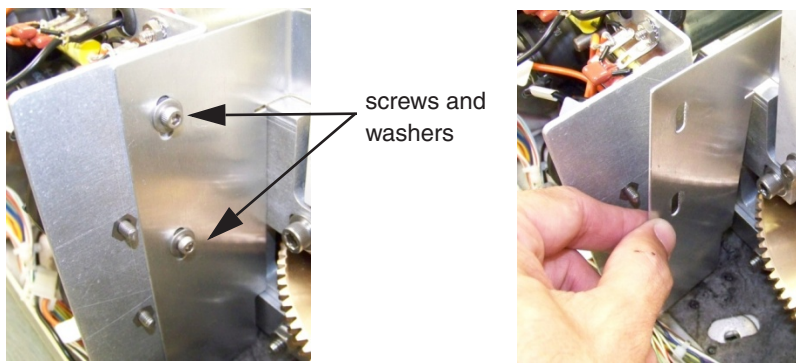

Figure 9-19 Remove screws and washers, then the plate
1. Remove the two screws and flat washers that hold the deflector shield in place, then remove the plate (Figure 9-19).